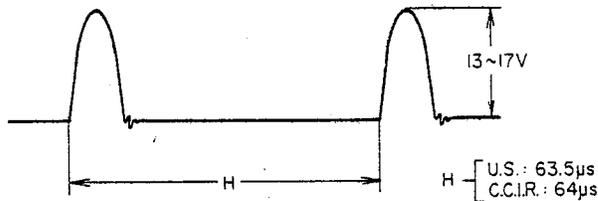

Fig. 4 Horizontal Deflection waveforms
- (c) Connect Oscilloscope between P.C. Board H. Yoke Terminal and chassis and confirm that the waveform appearing is as shown in Fig. 4.